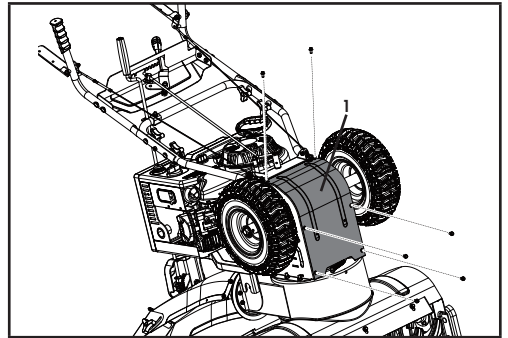

Figure 42A
2. Remove the base frame cover (1) from the underside of the snowblower by removing the six M6 × 16 screws which secures it (Fig. 42A).